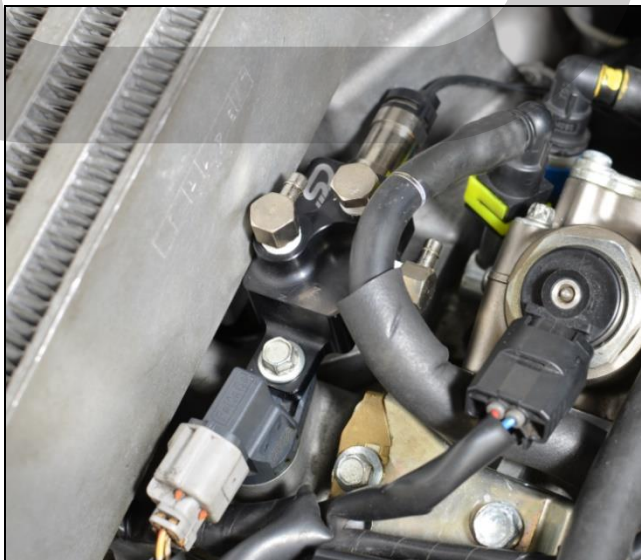

Figure 5b
- b) Mount the CorkSport EBCS as shown in Figure 5b.